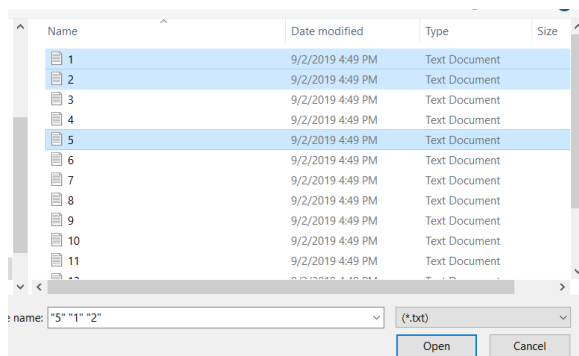

Figure 7: Select files for plotting.
- Press the 'Plot Spectrum (Spectra)' button ([1] in Fig. 6) to select file. Multiple files can be selected by holding down 'Ctrl' or 'Shift' Key. Then, click 'Open' to confirm. (Fig. 7)